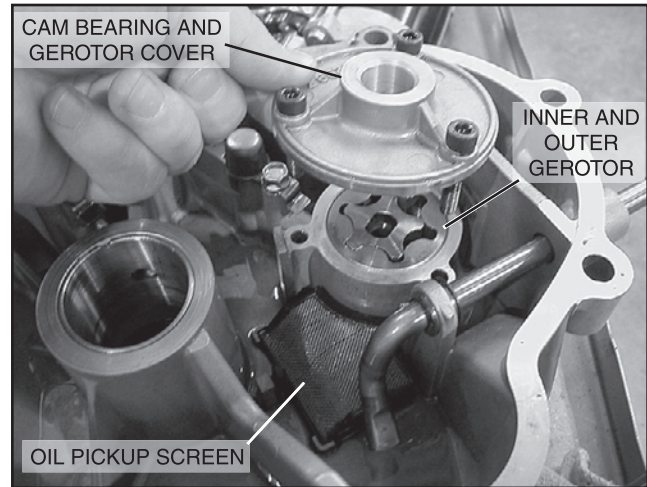

Figure 13-7. Installing Oil Pump
3. Torque screws to 12.2 Nm (108 in. lbs.). See Figure 13-7.